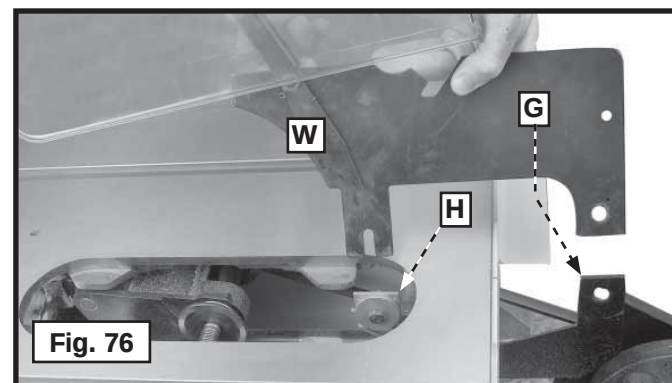

Fig. 76
⚠ CAUTION: For certain cutting operations (dadoing and moulding) where the workpiece is not cut completely through, the blade guard and splitter assembly cannot be used. Loosen screws at (G) and (H) Fig. 76. Lift and remove the blade guard and splitter assembly (W).